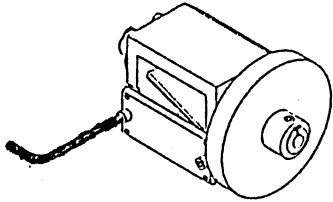

FIGURE 1
Step 3. Using a $7/64$ " hex wrench, loosen the two #6-32 X $3/8$ " socket head cap screws by turning the wrench counter-clockwise. Do not remove the screws. Loosen them to the point that they can be turned with fingers alone. Please see Figure 1.